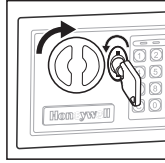

Figure 3
3. With the key inserted turn counter clockwise to the left (Figure 3).